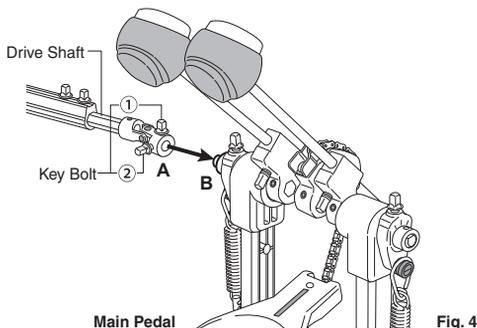

Fig. 4
Connect the ends of the Drive Shaft (A) to the short extensions (B) on the Main and Slave Side Pedals. You may need to rotate the Cam on the Slave Side Pedal to bring the footboard of the Slave Side (left) Pedal to the proper playing height (angle) before attaching the Drive Shaft Joints (A) to both pedals. Tighten Key Bolt ① with the provided Drum Key and then Key Bolt ② (Figs. 4, 5).